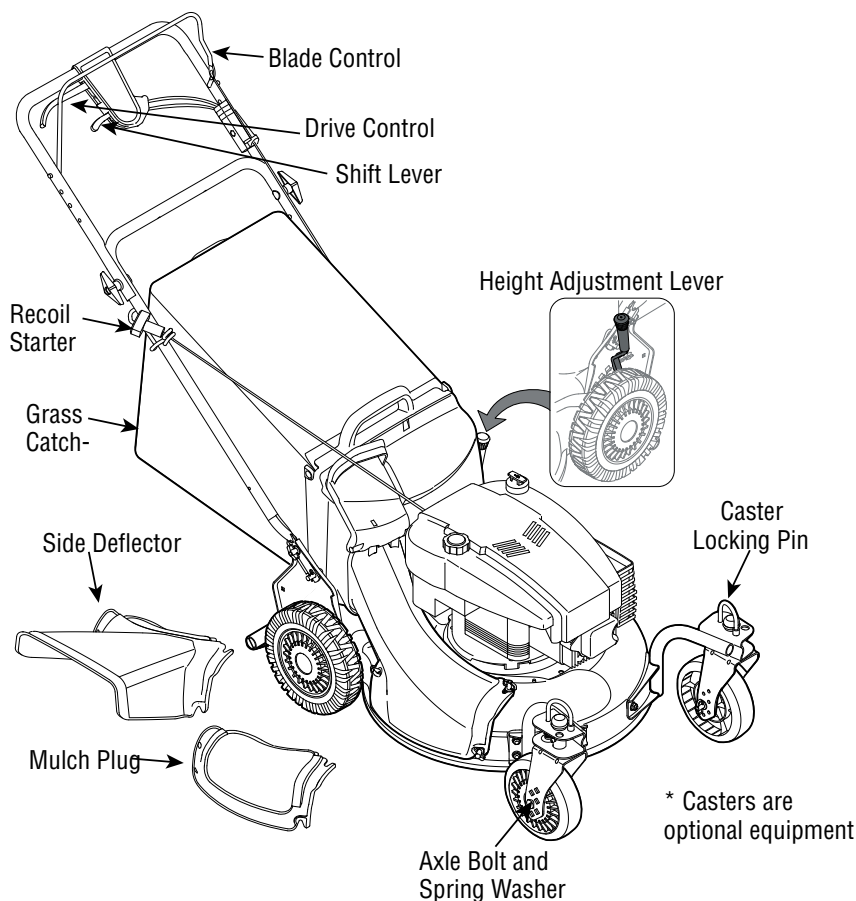

Figure 9
7. The height adjuster determines the cutting height of the mower. The adjuster is located above the left rear wheel. To adjust the cutting height, pull the lever out and away from the mower and then move it forward or back to select a new cutting height. See Figure 9.
The blade control handle is located on the upper handle of the mower. See Figure 9. The blade control handle must be depressed in order to operate the unit. Release the blade control handle to stop the engine and blade.
The shift lever is located on the drive control housing on the upper handle. See Figure 9. This lever is used to select the forward speed of the mower. When changing your speed selection, release the drive clutch control.
The front wheel cutting height is determined by the selection of one of six positions in each caster assembly. See Figure 9.
5. The six speed shift lever is located on the drive clutch control housing on the upper handle. See Figure 9. This lever is used to select the operating speed of the mower. Release the drive clutch control when changing speeds.